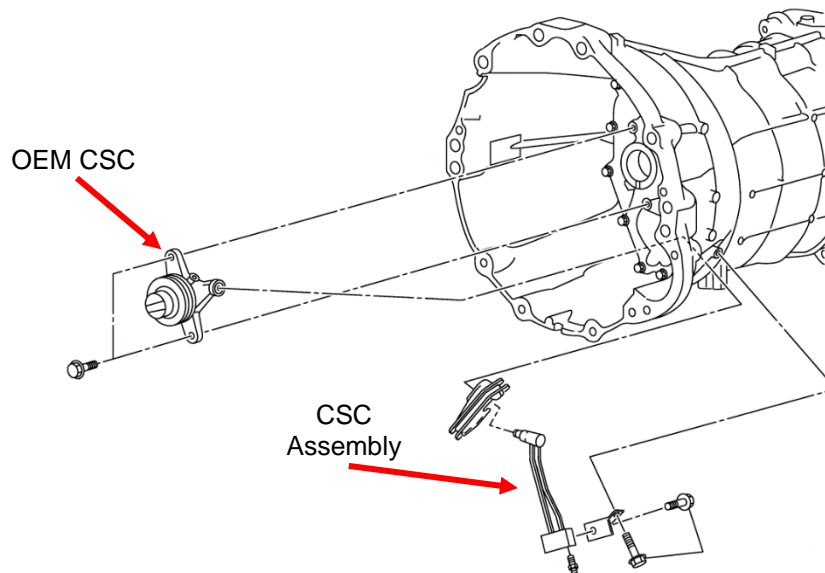

Figure 1
18. Remove Concentric Slave Cylinder (CSC) assembly as outlined in Nissan FSM. See *Figure 1* below.